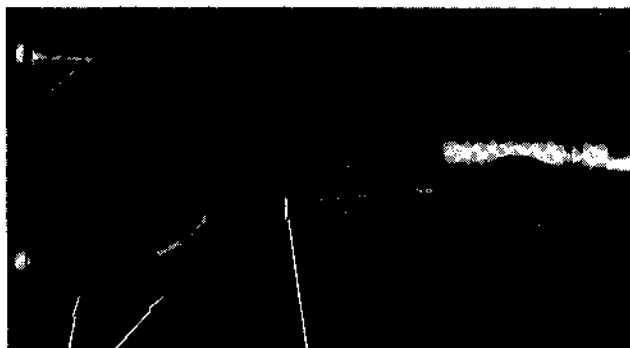

Figure 68
Connecting rod and cap assemblies must be matched marked with matching cylinder numbers and marks denoting the side of the rod facing the discharge end of the compressor to insure proper fit in reassembly. (Figure 68). When assembled to the crankshaft, the match marks must be on the same side facing the pump end of the compressor. When reusing rods and caps, reassemble them in the same cylinders they were removed from. For this reason, when match marking the connecting rods it is wise to use the cylinder number.
5. Seat the connecting rod on the crankshaft journal and attach the connecting rod cap. Make sure the cap and rod match marks face the discharge end and the matching numbers are the same (Figure 68). Install the connecting rod bolts and washers and tighten to final torque. TORQUE - 12 FT. LBS.